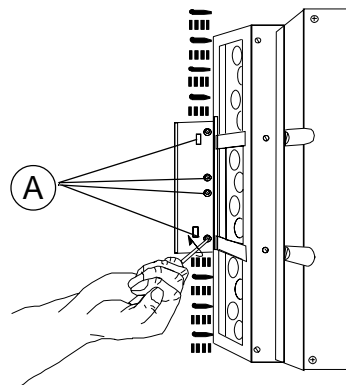

Figure 33: Loosening Restraint Screws
- Loosen four retaining screws (A, Fig. 33) in mounting bracket. Be sure screws completely clear positioning holes in pan.